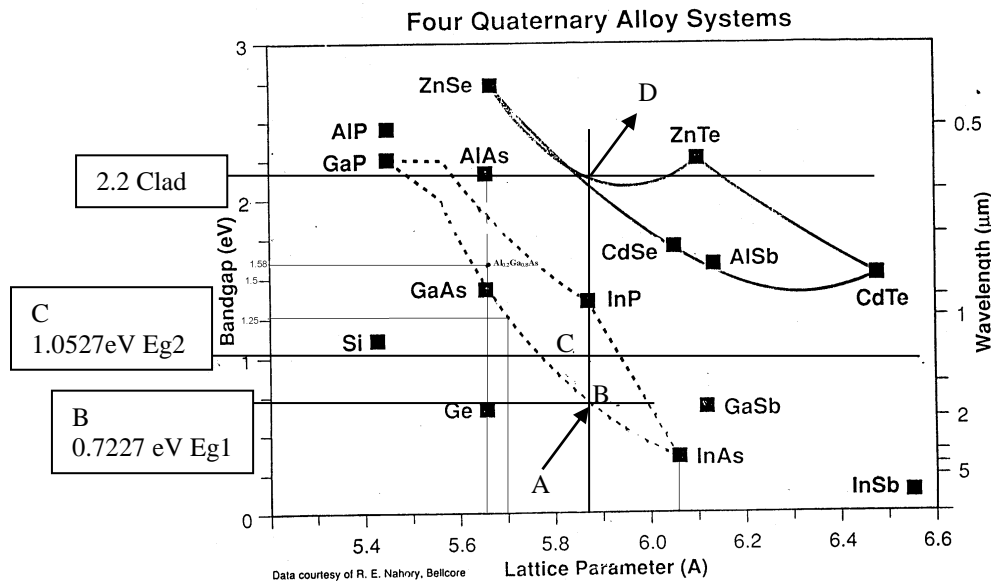

Fig. 3 Energy gap as a function of lattice parameter.
Q.1 (a) Find the composition of quantum dot in the active layer using Fig. 3.